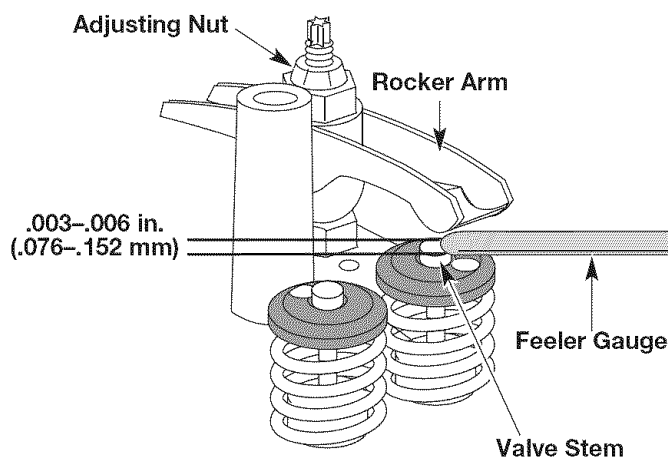

Fig. 34
7. Slide the feeler gauge between the rocker arm and the valve return spring. Measure the clearance between the valve stem and rocker arm (Fig. 34). Measure both the intake and exhaust valves.
- a. Turn the adjusting nut using a 5/16 inch (8 mm) wrench or nut driver (Fig. 34).